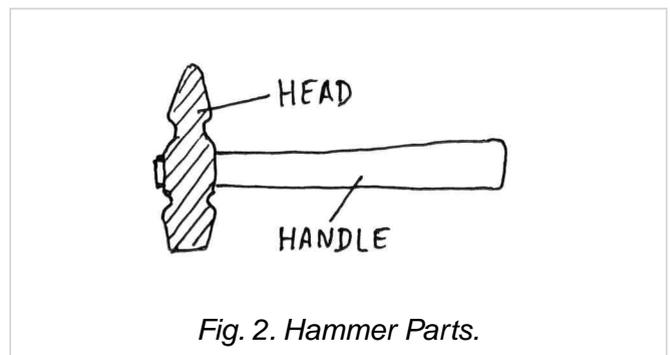

Fig. 2. Hammer Parts.
To unpack the tool, cut the sealing ribbon on the top of the box, open the box by pulling the two halves of the upper side and turn it upside down. The hammer comes out automatically by gravitation.(1) To install the hammer, simply hold it by the handle (see Fig. 2) . Try to perform some oscillatory movements upward and downward. If you feel the hammer is too heavy for you, contact the nearest gym.